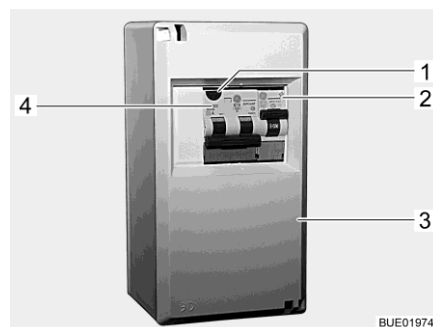
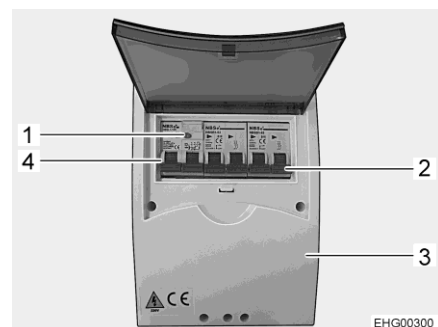

Fig. 136 230 V fuse box
Fig. 137 230 V fuse box (variant)
- Switch off the safety cut-outs (Fig. 136,2, Fig. 136,4 or Fig. 137,2, Fig. 137,4) in the fuse box (Fig. 136,3 or Fig. 137,3).
- When the vehicle is connected to the 230 V supply, press the test button (Fig. 136,1 or Fig. 137,1) of the combined fault current protection switch /safety cut-out (Fig. 136,4 or Fig. 137,4) in the fuse box (Fig. 136,3 or Fig. 137,3). The fault current protection switch must trip.